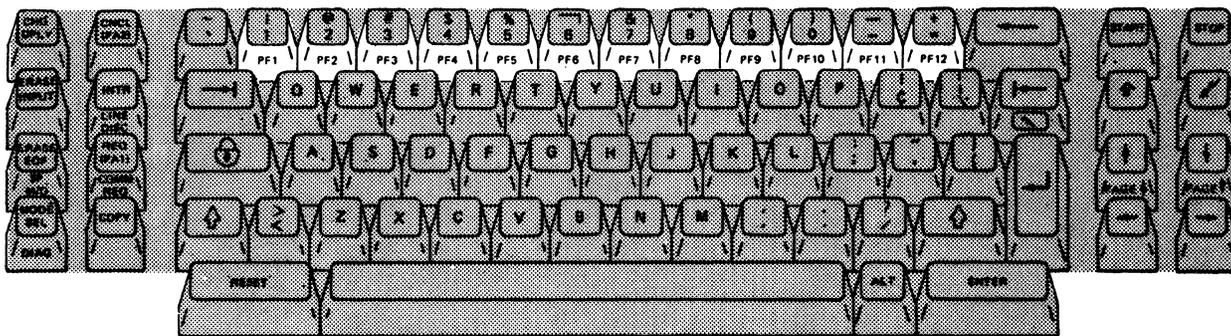

Figure 14. Program Function Keys
In addition to the functions permanently assigned to system function keys, application programs can assign other program functions to the program function (PF) keys (Figure 14). To activate a program function, press and hold the ALT key and press the appropriate PF key.